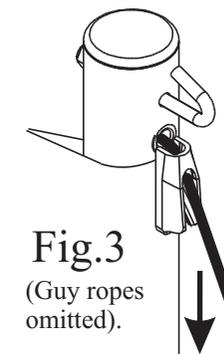

Fig.3
**6** Check again that the posts are both vertical and achieve final tension by pulling down on the net headline, jam the headline rope into the cleat to lock, as shown in Figure 3. To release the headline rope; pull down slightly and then pull away from the post, this will free the headline rope from the cleat.